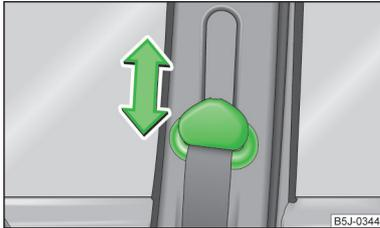

Fig. 7
- Press the height adjuster and move up or down in the desired direction » Fig. 7.